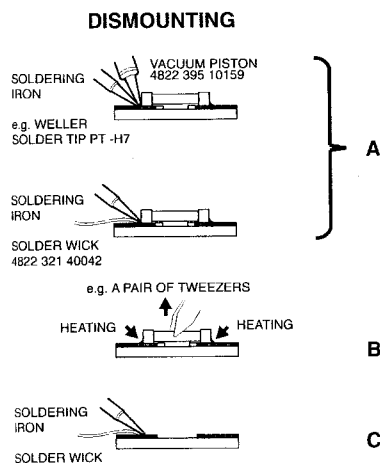

Fig. 1
- While holding the SMD with a pair of tweezers, take it off gently using the soldering iron's heat applied to each terminal (see Fig. 1 B).